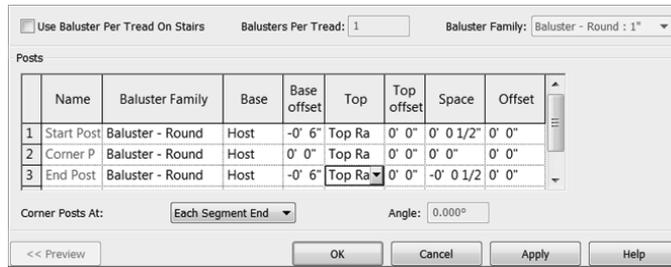

FIGURE 10.18: Setting the offset allows the post to extend to the floor where needed.
1. For Start Post (1) and End Post (3), type -6" (-150 mm) for the base offset, as shown in Figure 10.18.